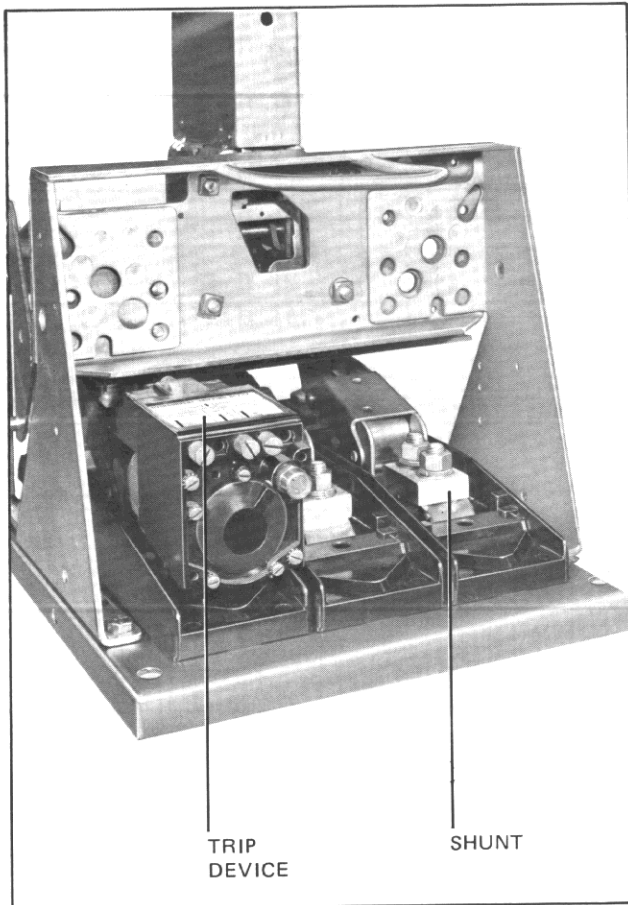

Fig. 6 Removal of Electro-Mechanical Trip Devices
- C. Remove the three electro-mechanical trip units and replace with three copper jumpers using .5-13 x 2.125 bolts, see Fig. 6.